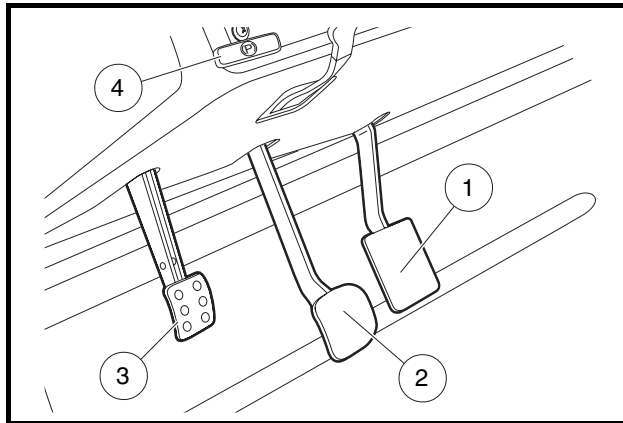
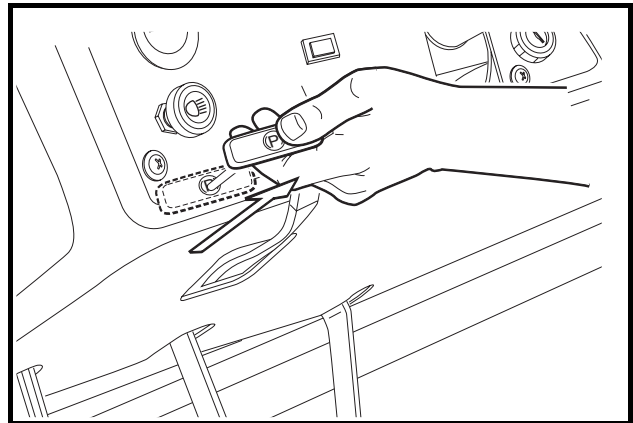

Figure 6 Pedals
Figure 7 Park Brake Release
The accelerator pedal (1) is the pedal on the right (**Figure 6**).
The brake pedal (2) is located to the immediate left of the accelerator pedal (**Figure 6**). To slow or stop the vehicle, press the brake pedal.
The park brake pedal (3) is located to the left of the brake pedal (**Figure 6**). To engage the park brake, first apply pressure to the brake pedal, then firmly press the park brake pedal until it latches into place. To disengage, pull the park brake release handle (**Figure 7**). **See following WARNING.**